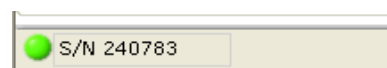

Fig. 6
3. When the unit is connected to the RESPIROSoft™, the software shows the S/N and a green led on the left bottom (Fig. 6).